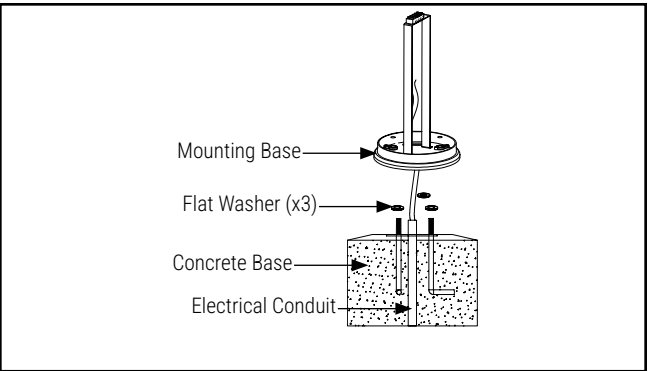
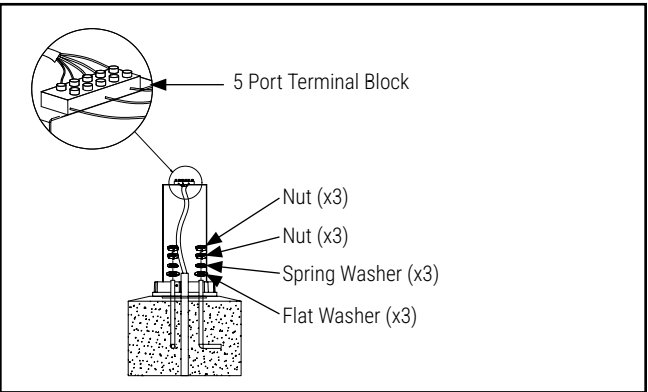

Figure 7a.
Figure 7b.
7. Place bollard mounting base over anchor bolts, and tighten flat washer, spring washer & nuts Fig. 7a and Fig.7b securing the mounting base to the foundation.